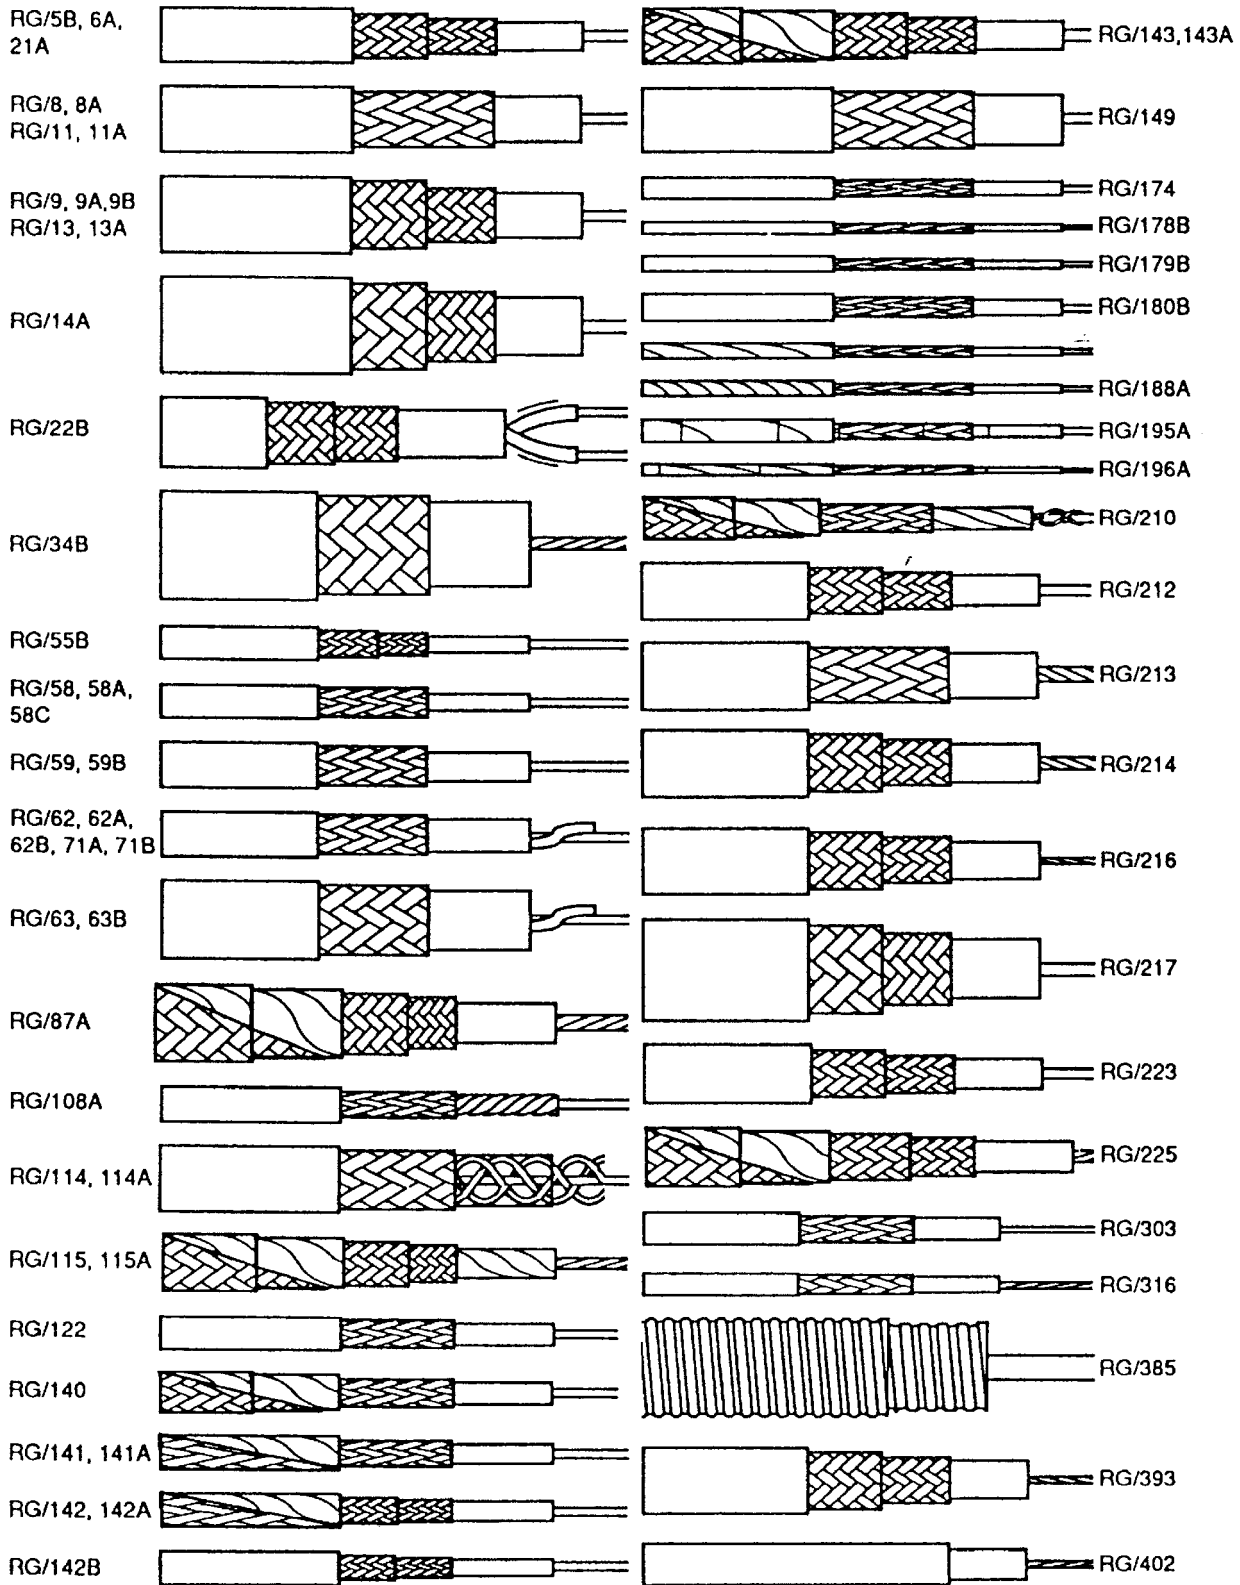

Figure 1. Typical MIL-C-17 Cables.
3. **RF CABLE DESCRIPTIONS.** The cables described herein are the typical types. There are numerous variations depending on the electronic system requirements (Figure 1). When standard cables are not available, designers use MIL-T-81490 Transmission Lines, Transverse electromagnetic mode for guidance. Refer to the specific aircraft manual for repair and installation of these type of cables.